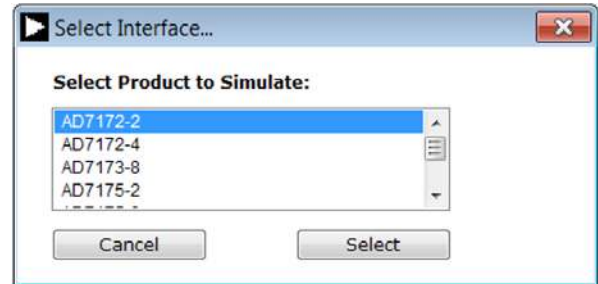

Figure 15. Evaluation Board Selection Simulation
4. The AD717x Eval+ software can also be used without connecting hardware. Click the **Simulation** button and the options shown in Figure 15 appear. This option uses a software model and allows the AD7172-2, AD7172-4, AD7173-8, AD7175-2, AD7175-8, AD7176-2, or AD7177-2 to be evaluated.